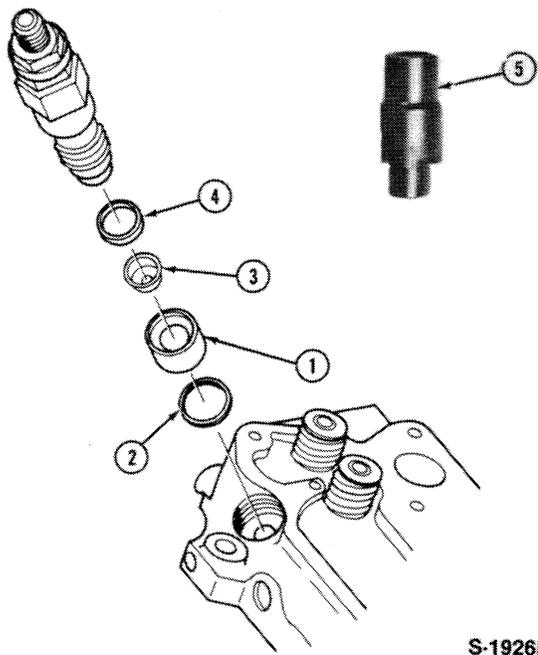

Figure 15
4. **Model 1310 only:** Using Tool No. 1589, remove the pre-combustion chamber from the cylinder head, Figure 15.